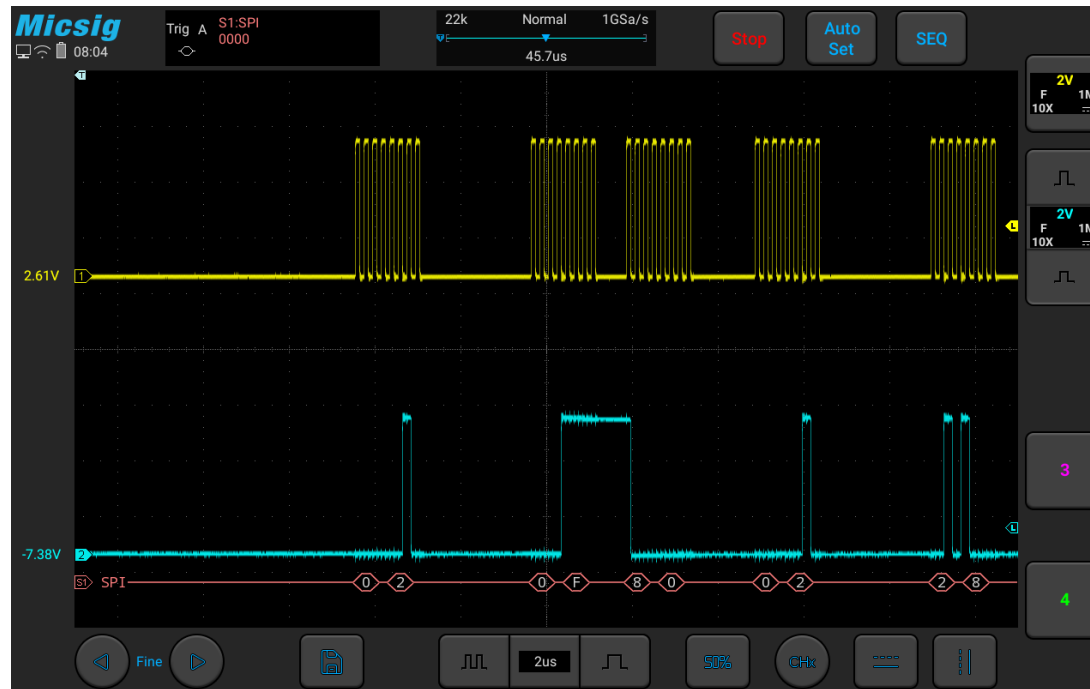

Figure 11-20 SPI Graphic Interface
- (1) Tap S1 to open the decode channel, and click S1 again to open the bus configuration menu;
- (2) Select the bus type as “SPI”, click clock as “Ch1” rising edge, the data is “Ch2” high level, and the data word length is “4bit”;
- (3) Open the trigger setting menu, click data on the touch screen, and use the virtual soft keyboard to set the data to be matched as “0001”;
- (4) Adjust the threshold levels of two channels according to signal amplitude; the SPI trigger graphic interface is shown in Figure 11-20: